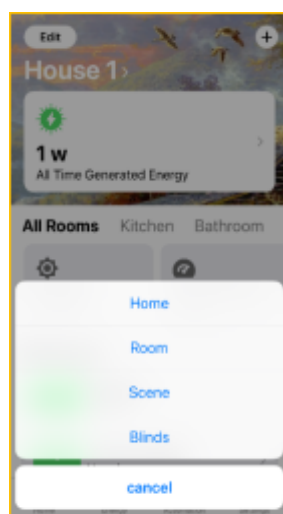

Figure 25
**10.7.2.** Select **Scene** from the menu options (Fig. 25).